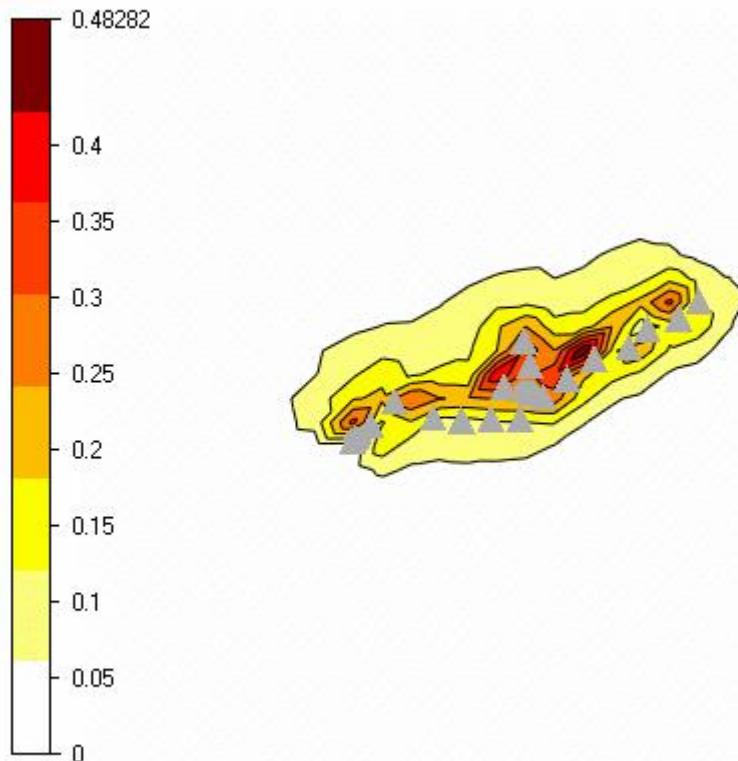

Figure 44 - Wake deficit at hub height, wake model 1.
2. Re-run the simulation by clicking the “Start” button. The wake deficits obtained with wake model 1 at hub height are plotted in Figure 44.